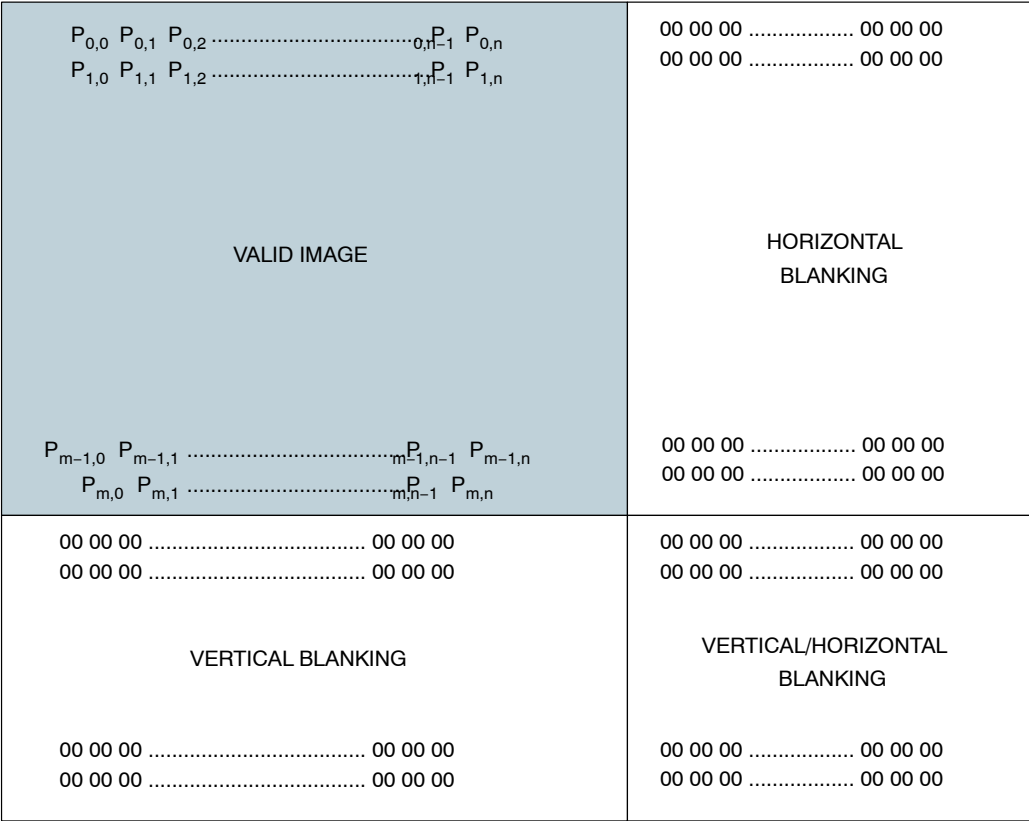

Figure 8. Spatial Illustration of Image Readout
The AR0130 image data is read out in a progressive scan. Valid image data is surrounded by horizontal and vertical blanking (see Figure 8). The amount of horizontal row time (in clocks) is programmable through R0x300C. The amount
of vertical frame time (in rows) is programmable through R0x300A. LINE_VALID (LV) is HIGH during the shaded region of Figure 8. Optional Embedded Register setup information and Histogram statistic information are available in first 2 and last row of image data.
Sensor timing is shown in terms of pixel clock cycles (see Figure 8). The recommended pixel clock frequency is 74.25 MHz. The vertical blanking and the total frame time equations assume that the integration time (coarse integration time plus fine integration time) is less than the number of active lines plus the blanking lines: